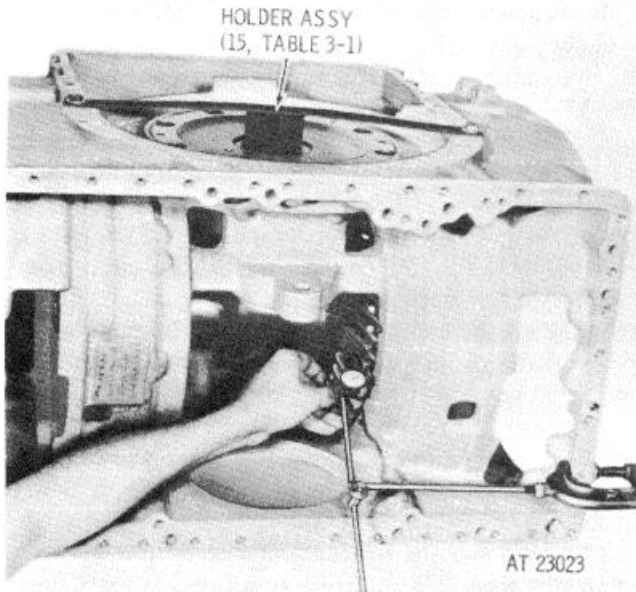

Figure 8-5. Checking backlash of bevel gears.
b. Check the backlash between the drive and driven gear teeth by locking the drive gear with holder assembly (15, table 3-1) (fig. 8-5). Install a dial indicator against a tooth of the driven gear. Rock the driven gear in both directions and note the backlash. It should be as indicated by the etched dimension (BL) on the gear set.
c. Remove holder assembly (15, table 3-1) (fig. 8-5). Coat several teeth of the bevel drive gear with a fairly dry mixture of red lead and oil. Using wrench assembly (30, table 3-1) (para 8-11, step 8, below), and a socket wrench drive, rotate the drive gear in a clockwise direction through several revolutions while holding a light load against turning of the cross shaft (para 8-11, step 8, below). Note the gear tooth contact